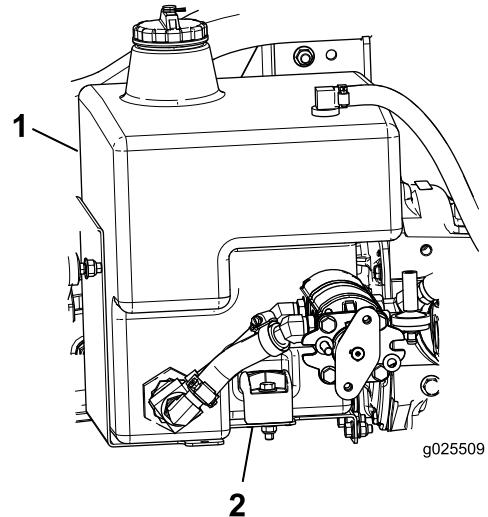
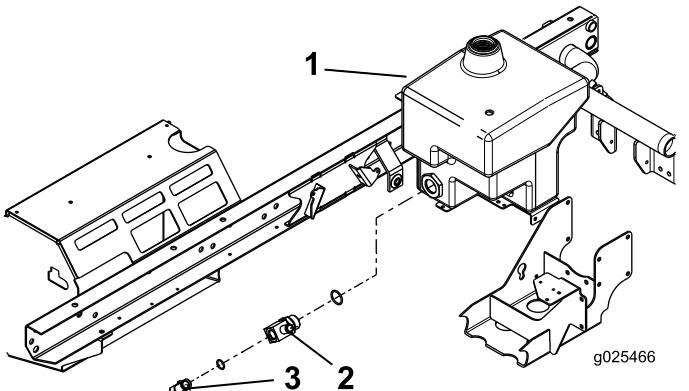

Figure 4
Figure 11
2. Remove the straight fitting to allow the fluid to drain out (Figure 4 and Figure 11). Discard the straight fitting.
3. Remove the bolt and bracket holding the hydraulic tank (Figure 4).
1. Loosely install the large tee fitting into the hydraulic tank (Figure 11).
2. Install the 90° fitting into the large tee fitting (Figure 11).